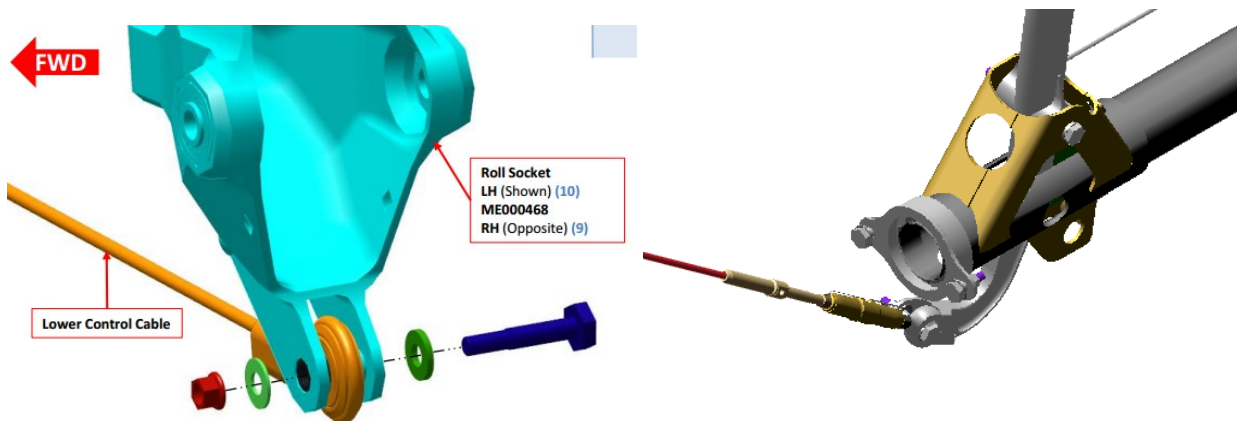

Figure 6: Roll Socket and torque tube connection points.
3. Connect the lower roll cable to the lower roll socket attachment point as shown in figure 6 above. Torque hardware to 20 in-lb.